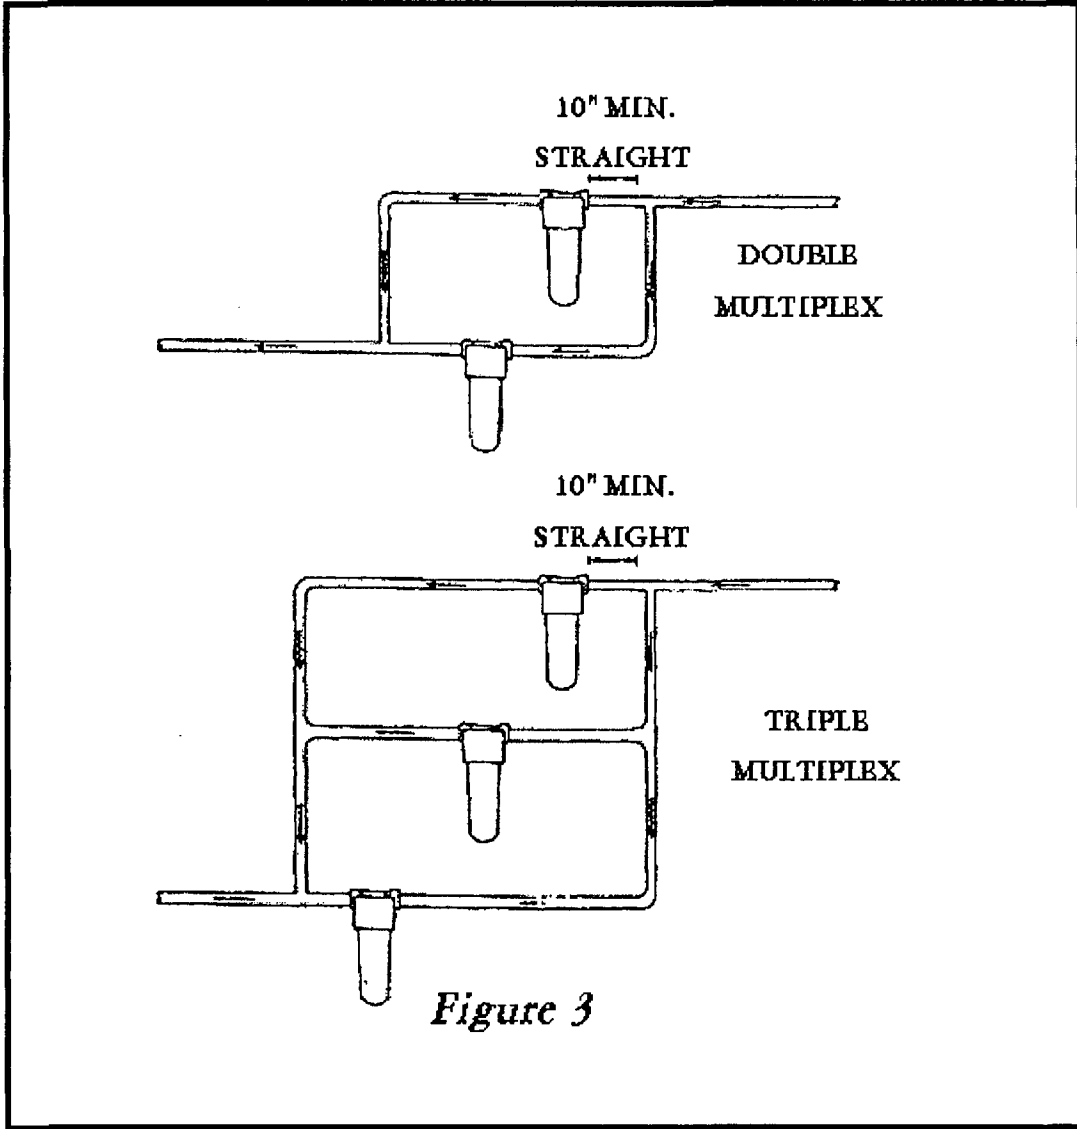

Figure 3
6. Drill four one-quarter inch holes in the evaporative cooling equipment casing using the mounting brackets as templates. Attach mounting brackets with sheet metal screws provided (Figure 1). If more than one IOBIO™ is required, locate the additional devices as close as possible to one another. Multiple devices are to be piped in parallel with piping arranged to provide equal flow resistance through each device (Figure 3).